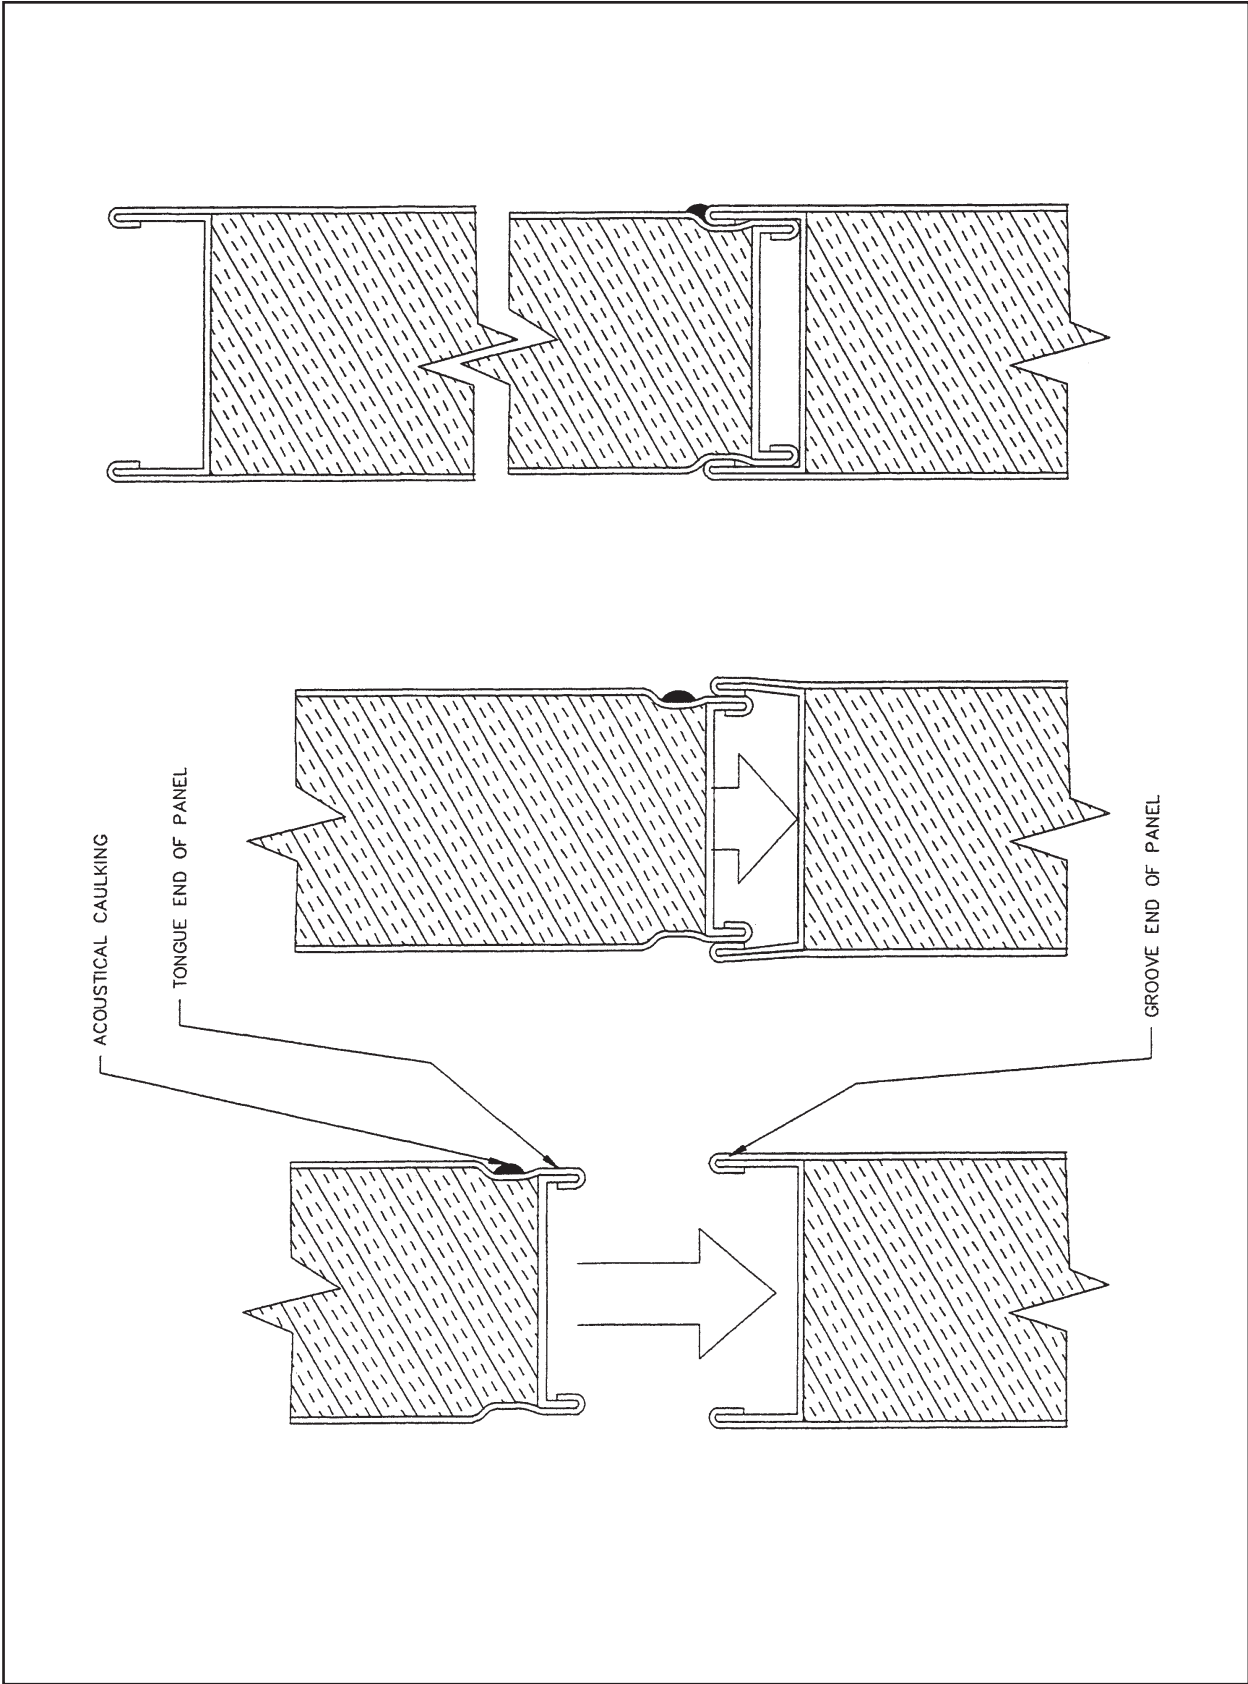

Figure 6
5. Insert next panel into base channel with tongue end mating with groove end on previously installed panel (refer to Figure 6). Panels are pushed together to allow snap-lock. Parker-provided caulking placed on the tongue self-locking recess will exude as panels lock together.